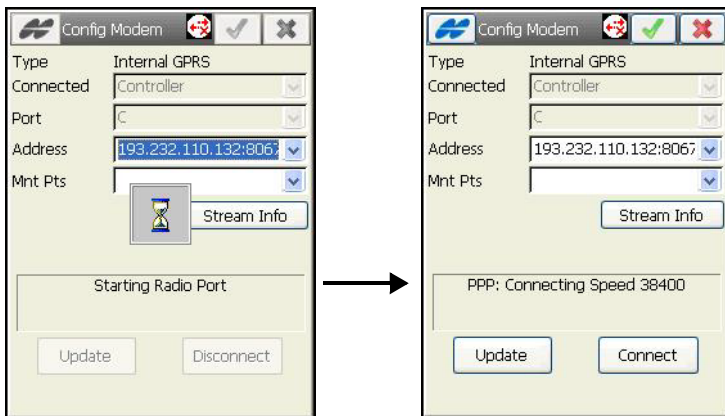

Figure 4-47. Starting Radio Port
13. Tap **Setup GPS ▶ Status**. Select *Config Modem* from the Help Icon menu in the upper-left corner of the *Status* screen to make a connection (Figure 4-47).